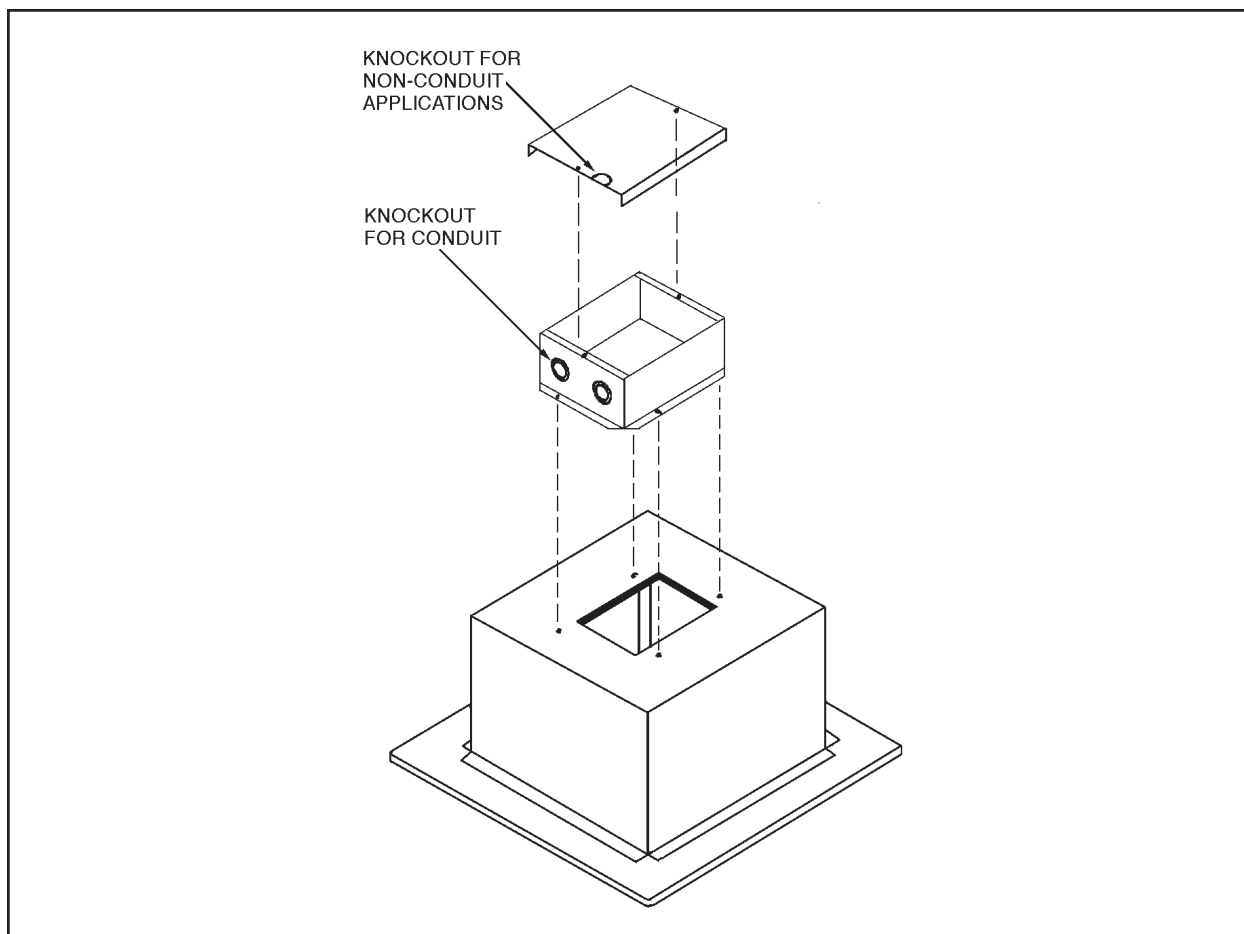

Figure 11. Attachment of J-Box to Back Box for Plenum Applications
1. Attach the provided J-box to the top of the enclosure back box as shown in Figure 11 using the supplied 6-32 screws.
5. Place the J-box cover onto the J-box with two (2) 6-32 screws (supplied).